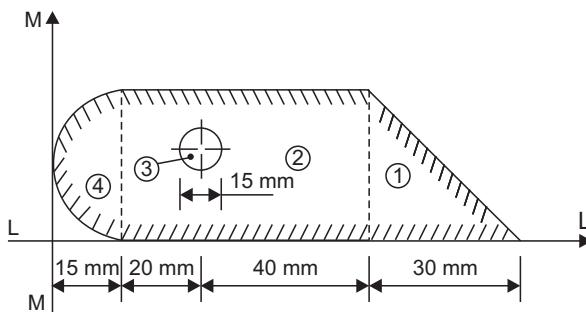

Fig. 8.29
**Example 8.9.** For the shaded area shown in Fig. 8.29, find the following :